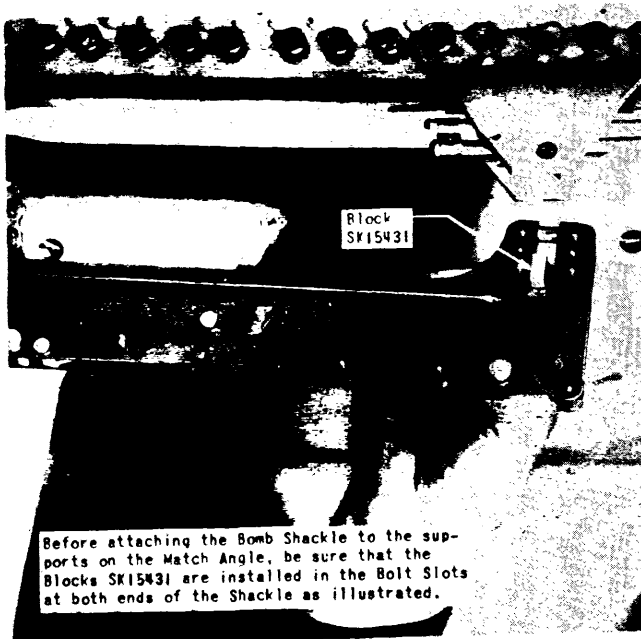

Figure 64 - Inserting Block in Shackle Prior to Installation on Support
b. To Install the Type B-7 Bomb Shackle. - Remove the keel fairing, insert the two blocks, SK15431, in the bolt slots, one on each end of the shackle and bolt the bomb shackle to the fore and aft support on the wing match angle as illustrated in figure 64. Safety the nuts with cotters. Attach the clevis end of the release cable to the bomb release lever at the forward end of the shackle. Attach the arming control cable which runs around the pulley on the front of the bomb shackle attaching bracket, to the arming lever at the top center of the shackle. (See figure 65.) Attach the short spring from the screw on the front shackle support to the bomb release lever on the shackle. Attach the long spring from the screw on the rear bomb shackle support to the arming lever on the bomb shackle. (See figure 66.) Remove the bomb shackle opening cover plate on the keel fairing and reinstall the fairing.